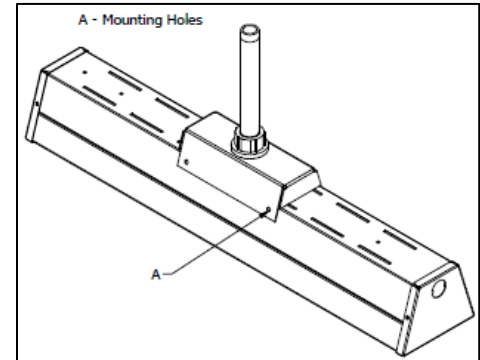

Figure 11
2. Make electrical connection with cable coming down from pendant mount rod. Ensure cable is slightly longer than the pendant mount rod to prevent cable strain once the light fixture is attached. See Figure 11.